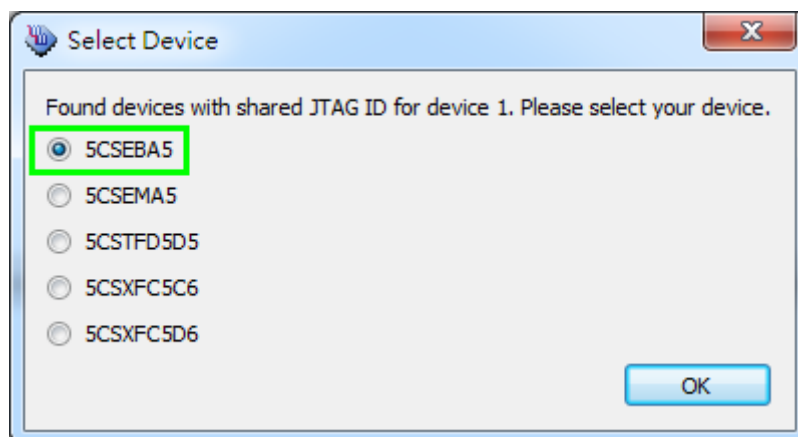

Figure 3-3 FPGA JTAG Programming Steps 2
- Select detected device as **Figure 3-3** (Please select device as same as which shows on the board)